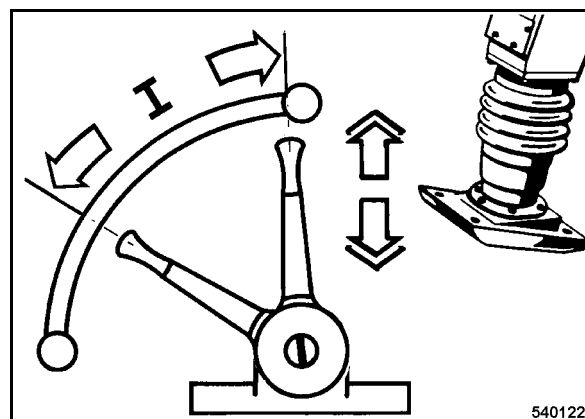

Fig. 19
- In order to achieve a smooth running of the machine adjust the throttle lever in the range I (Fig. 19), depending on the condition and the density of the soil.